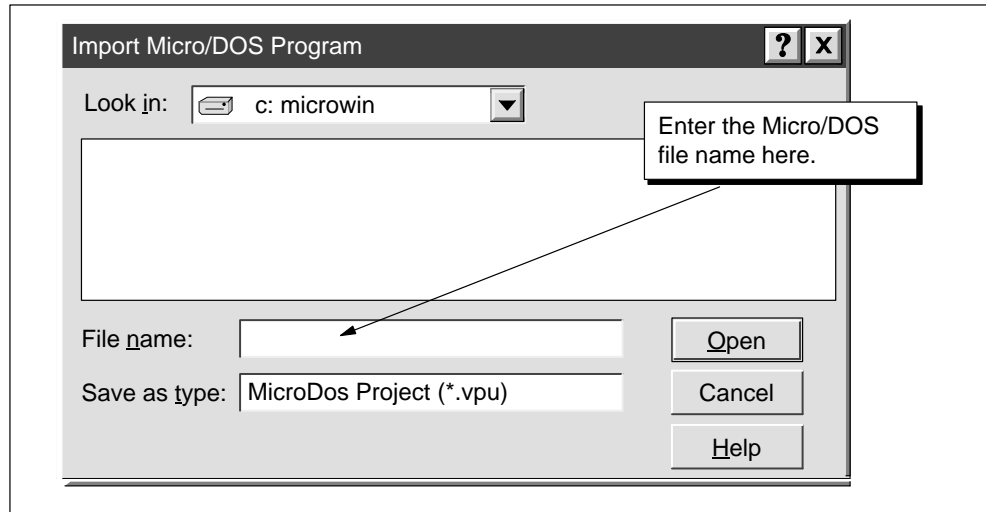

Figure E-3 Selecting the STEP 7-Micro/DOS Program
4. Using the Import Micro/DOS Program dialog box (shown in Figure E-3), select the directory that contains the STEP 7-Micro/DOS program you want to import.
5. Double-click on the STEP 7-Micro/DOS file (or enter the file name), as shown in Figure E-3.